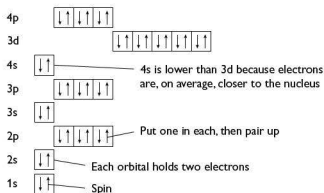

Figure 2.1 Sequence of filling orbitals with electrons
Figure 2.1 illustrates some key points in the arrangement of electrons in atoms. These are things you should remember:
- If you study Figure 2.1 there is one strange entry — the 4s-orbital has lower energy than the 3d-orbital.
The proton number is 16, so the atom must also contain 16 electrons. Referring back to Figure 2.1, we can count upwards until 16 electrons have been used. This means the 1s-orbital, the 2s- and 2p-orbitals and the 3s-orbital
The ion contains an extra two electrons compared with the atom. This means that it contains a total of $(16 + 2)$ or 18 electrons. Looking at Figure 2.1 you can see that these extra two electrons will fit into the remainder of the 3p-orbital giving an electronic configuration of $1s^2, 2s^2, 2p^6, 3s^2, 3p^6$ for the ion X^{2-} .